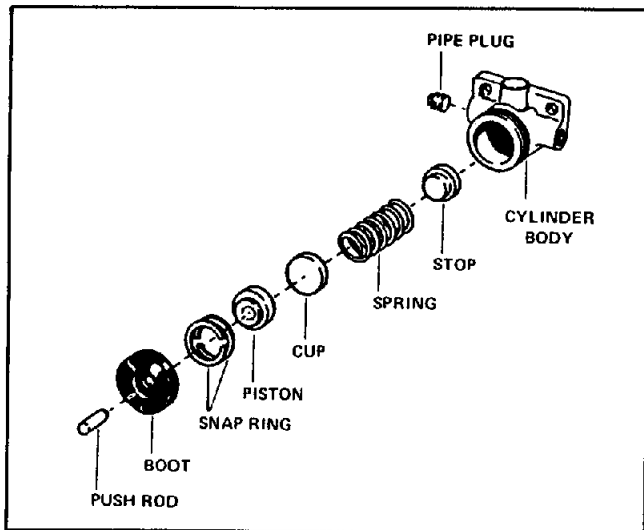

Figure 44. Brake Cylinder
1. Remove brake cylinder tube lines. Remove brake lever spring (20). Remove roll pins and pivot pins for the auxiliary brake lever (9) and remove lever.
2. Remove roll pins and pivot pin for service brake lever (19). Remove lock nut and ball seat nut and service brake lever. Remove the brake cylinder (10).
3. Remove brake cylinder base (15) and brake hydraulic lines. Remove the four bolts attaching the hoist motor to the brake housing and remove motor.
6. Pull rubber boots off the cylinder, as shown in Figure 44. Push internal parts from cylinder bore. If any parts are frozen in the cylinder, they may be loosened by driving them with a wooden dowel.
Cylinder assembly is essentially the reverse of disassembly. Refer to Figure 44 and proceed as follows: